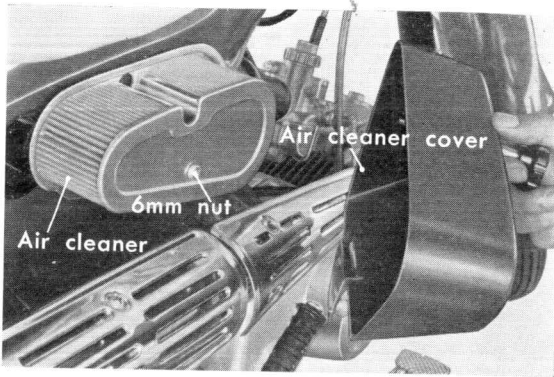

Figure 6-21. Removing air cleaner cover (S50, S65)
- b. For models S50 and S65, remove the air cleaner cover on the center right side, loosen the screw and remove the air cleaner. (Fig. 6-21)